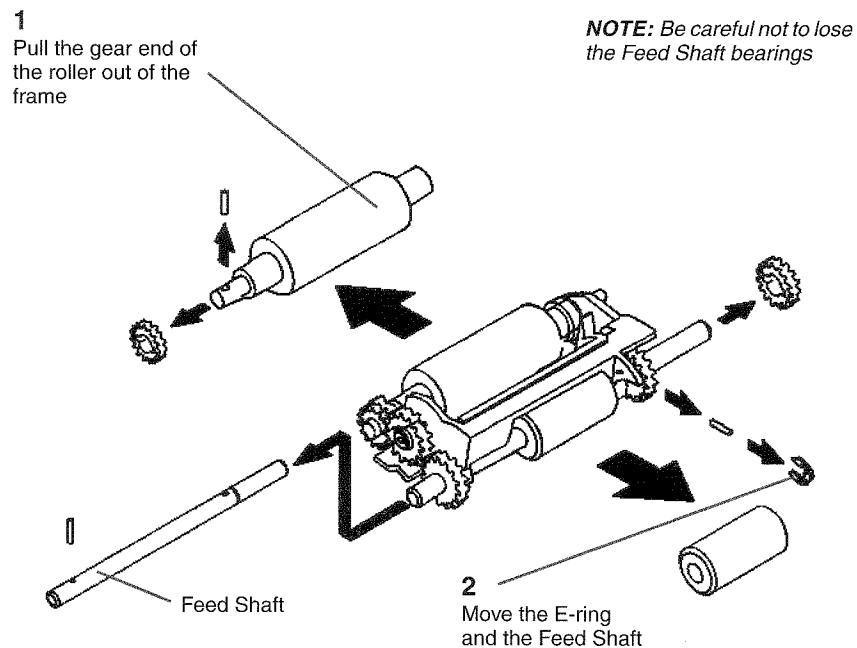

Figure 6 Removing the Input Roller
6. (Figure 6 ): Remove the Input Roller.